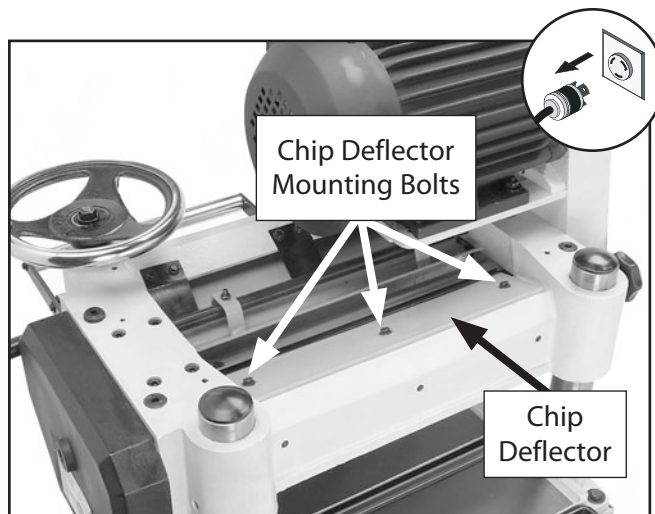

Figure 44. Chip deflector and mounting bolts.
3. Loosen the three chip deflector mounting bolts (see **Figure 44**).